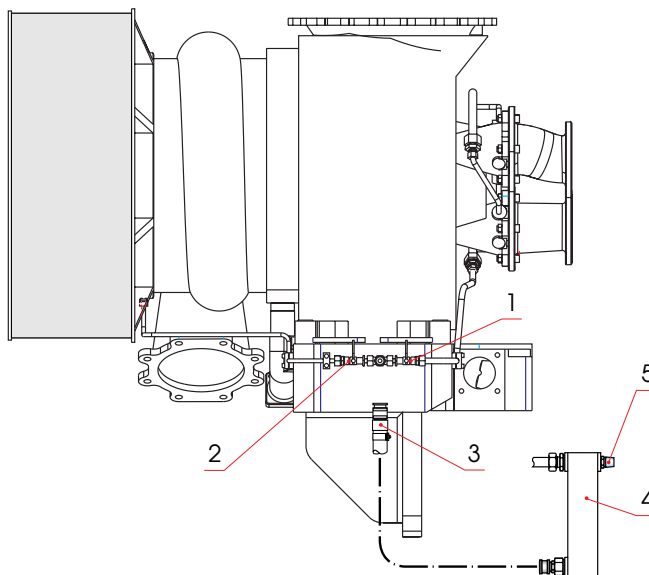

Fig 15-3
- 3** Open the valve (1) and check that the nozzles are not clogged, see Fig 15-3.
- 5** Open the valve (5) slowly and increase the water flow until the correct flow is reached according to the table shown in section 15.3.1. Lock the valve (5) with the counter nut.
- 6** Close the valve (1) after 60 seconds. Interval between injections is 90 sec.
- 9** Open the valve (1) and check that the nozzles are not clogged, see Fig 15-3.
- 11** Open the valve (5) slowly and increase the water flow until the correct flow is reached according to the table shown above. Lock the valve (5) by using the counter nut.
- 12** Close the valve (1) after 10 minutes.
- 15** Open the valve (1) and drain the water.
- 2 Open the valve (2)**, see Fig 15-3.
- 4 Use same adjustment as** for turbine side, i.e. wash the turbine side first and lock the valve (5) by using the counter nut, see Fig 15-3.